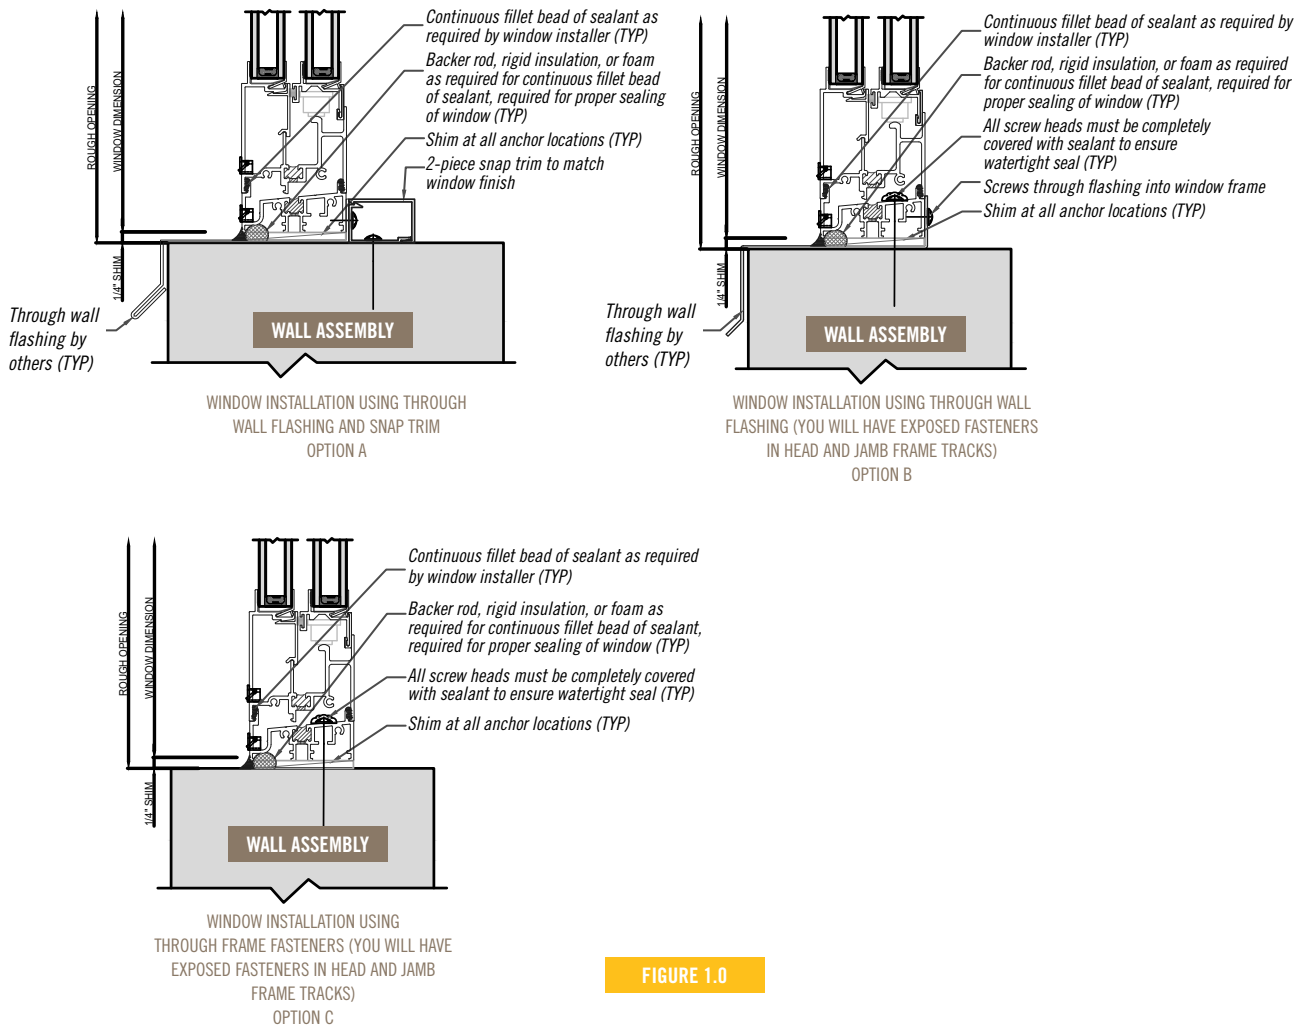
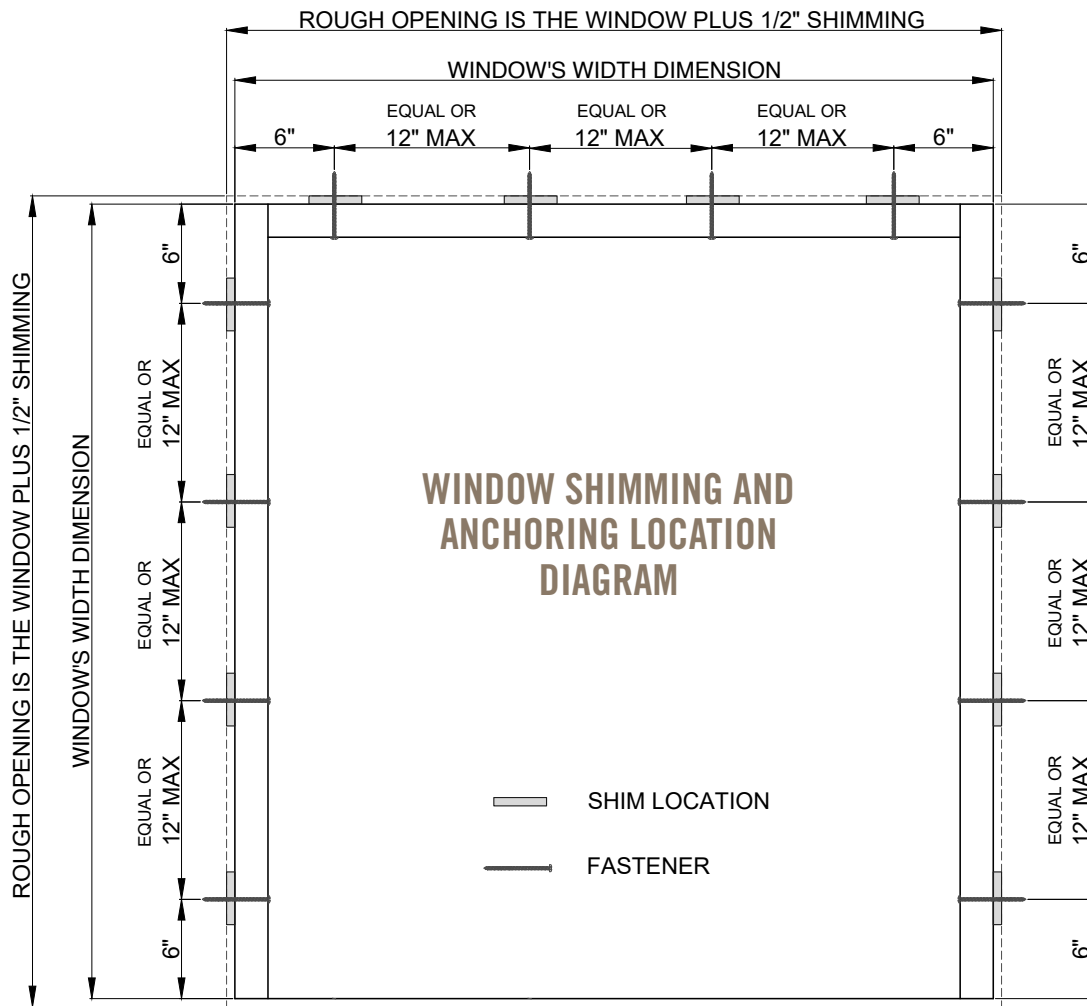

FIGURE 1.0
FIGURE 1.3
- Installation instructions are intended to be a reasonable guideline for the installation of window units and trims, based on common conditions. Conditions on a project vary, and deviations and/or special instructions should be defined in the shop drawings. See *Figure 1.0* for installation options.
- There are various ways to anchor windows. Always follow local codes for anchoring windows; if not covered by local or county jurisdictions, typical anchoring for all type installations would be 6" from the top and bottom of the side's rails, 6" from the sides on the top rail, and 12" apart along the balance of the window. See *Figure 1.3*.
- Line the window up in the prepared opening, shimming as necessary. See *Figure 1.3*. Fasten the trim clip to the substrate and the window and seal the heads. See *Figure 1.0* for typical sill details.